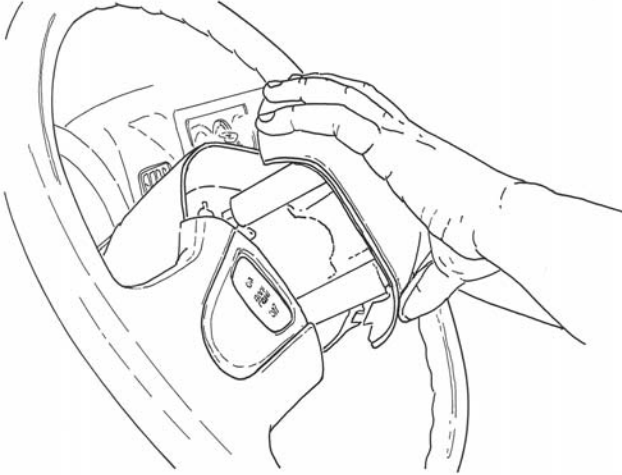

Figure 67 Removing Cover
2. Grasp cover as shown (Figure 67). Lift cover from steering wheel assembly.